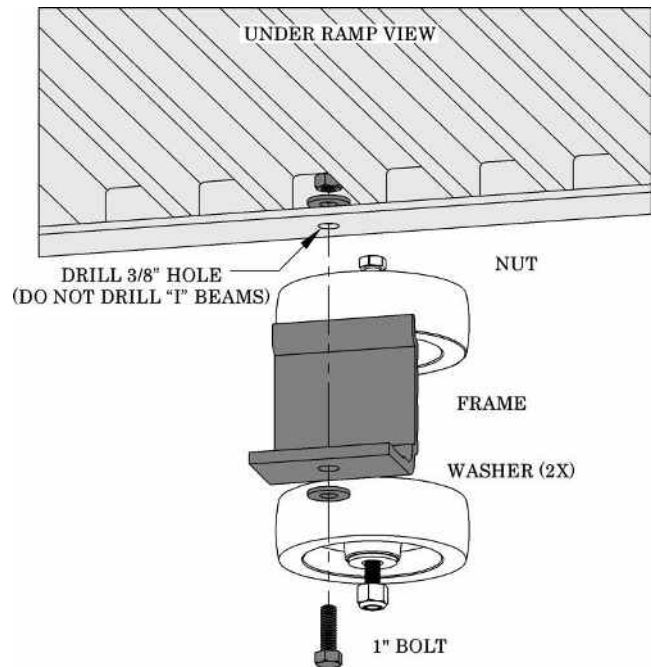

FIG. 3
- 5. Install by sliding the lip of the Wheel Kit frame under the hook of ramp's side rail then aligning the hole in the frame to the hole drilled in the previous step (FIG. 3).
- 6. Secure the Wheel Kit to the ramp using the supplied 5/16"-18 x 1" long hex bolt, two 5/16" washers, and 5/16"-18 nut installed as shown (FIG. 3).